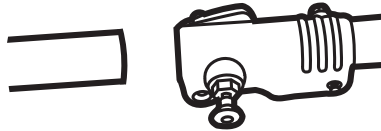

Fig. 9a
1. Align the brush cutter/ grass trimmer shaft (B14) with the clamp (A12) so that the hole in the extension is orientated to the locking pin. (See Fig. 9a)